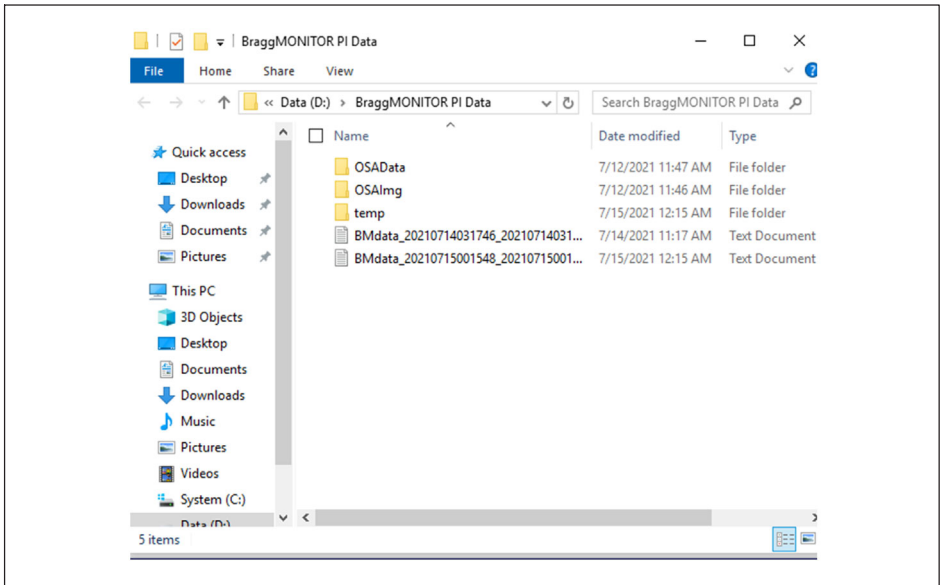

Fig. 7.3 Windows Explorer window
**4 Explorer:** Opens an Windows Explorer window, for easy access to saved files or other resources (see *Fig. 7.3*).